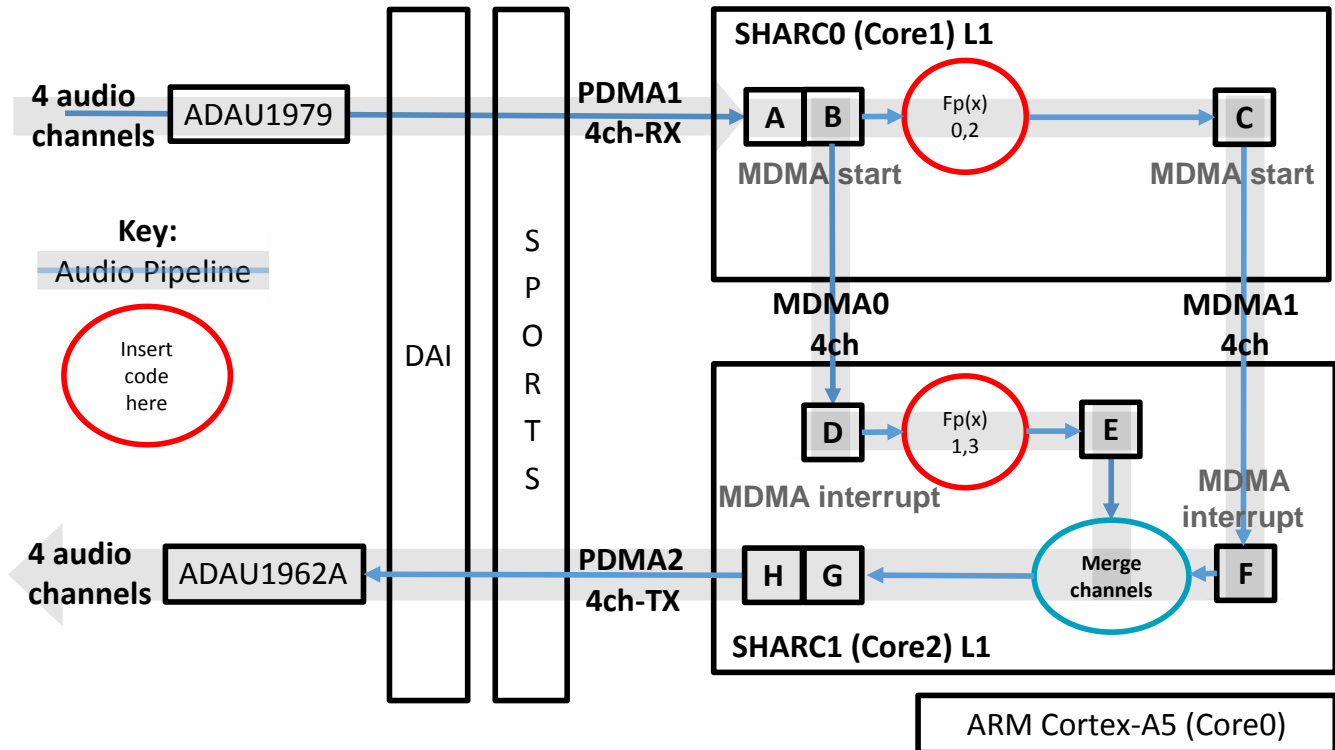

Figure 5. Block Diagram of Audio Talkthrough Example
A block diagram of the audio talkthrough example is shown in Figure 5.
Starting from the upper left of Figure 5, four audio channels enter the ADAU1979 ADC and are digitized into a serial stream. The serial stream enters the ADSP-SC58x processor via the Digital Audio Interface (DAI) and is transferred to S0L1 via the synchronous serial port (SPORT) receive (RX) Peripheral DMA (PDMA) channel. The SHARC0 core receives an interrupt after the audio frame is received into the SPORT RX PDMA destination buffer in S0L1 (ping-pong buffers A or B). The interrupt service routine (ISR) then executes, where the SHARC0 core starts the MDMA0 stream to transfer the raw audio from the source buffer (ping-pong buffer A or B) in S0L1 to the destination buffer D in S1L1. At that point, the two